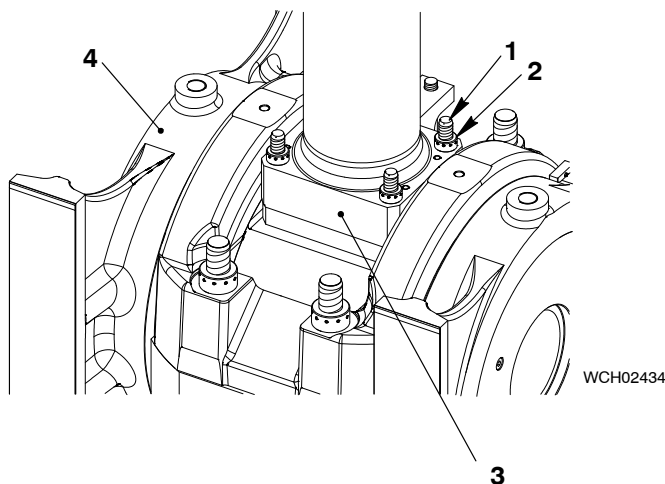

Fig. 1
- 3) Apply tension to the elastic studs (1, Fig. 1) of the piston rod foot (3), refer to 9403-4.
- 4) Remove the round nuts (2).